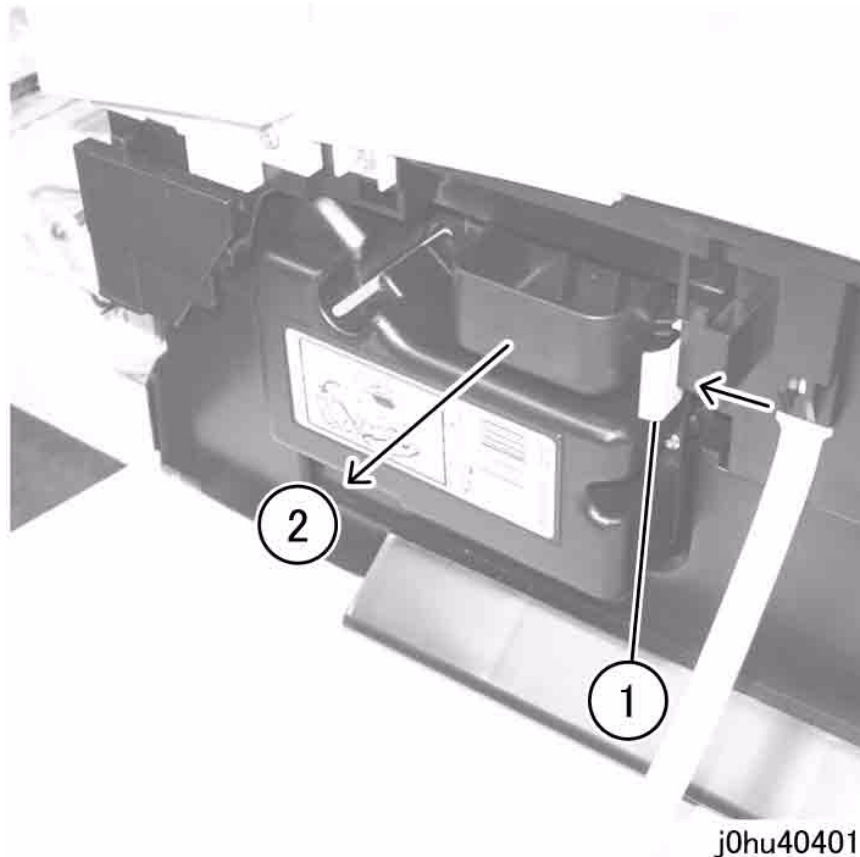

Figure 1 Remove Drum Cartridge
3. Remove the Drum Cartridge (Figure 1).